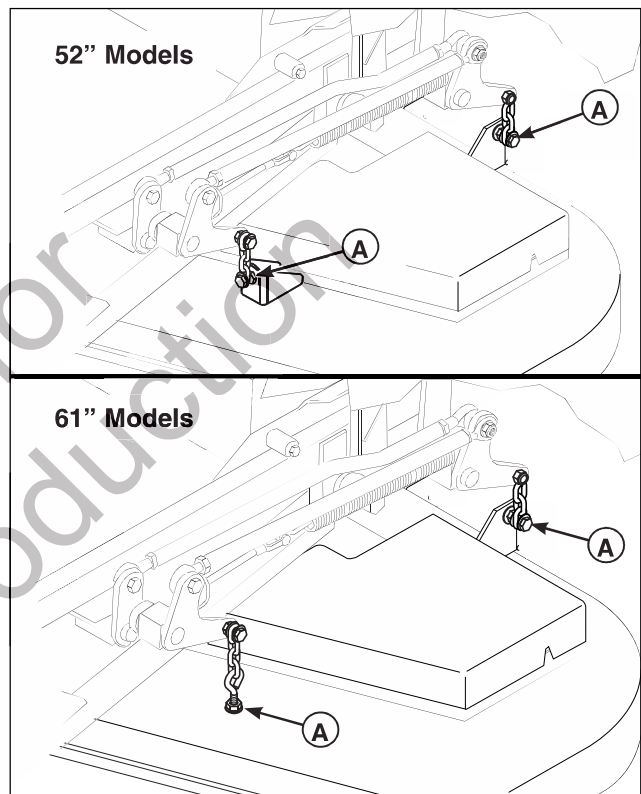

Figure 50. Hanger Chain Adjustment
4. 52" Models Only: Loosen the nuts and allow the front of the deck to rest of the 2 x 4's. Slide the chains down in the slots until the chains are tight and tighten the nuts. See Figure 50.
- 4a. 61" Models Only: Adjust the front eyebolts until the chains are tight and the deck is still resting on the 2 x 4's. Tighten the jam nuts. See Figure 50.
5. Loosen the nuts and allow the rear of the deck to rest on the 2 x 4's. Slide the chains down in the slots until the chains are tight and tighten the nuts. See Figure 50.